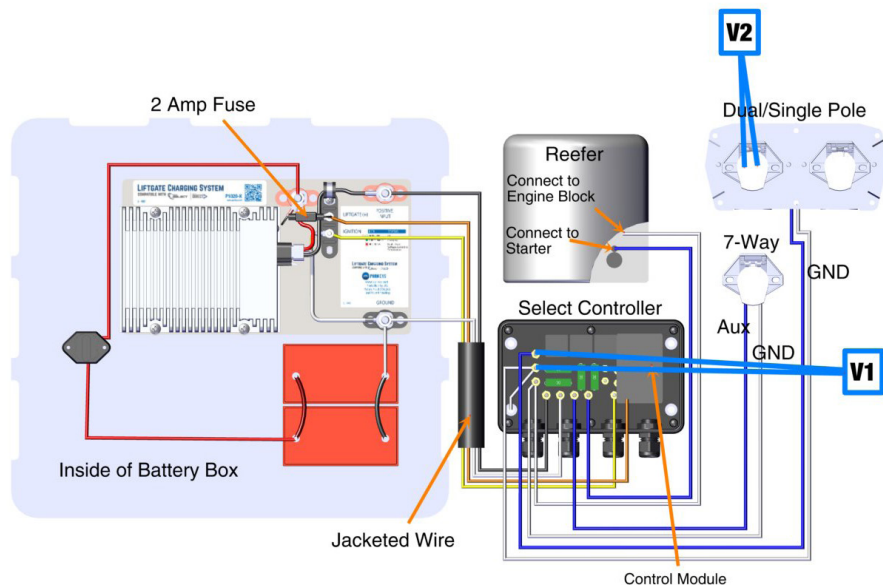

Figure 9
Step 1: With the stinger cord still plugged in, and the tractor running, use a voltmeter to measure the voltage between the dual pole positive stud and the dual pole negative stud inside the Select Controller (see V1 in Figure 9). It should read 13.2 volts or greater. If yes, and the light still is not solid green, call customer service, as the Select Controller or Control Module may be defective. If no, proceed to step 2.
Step 2: With the stinger cord still plugged in, and the tractor running, use a voltmeter to measure the voltage between the positive and negative poles in the stinger receptacle (see V2 in Figure 9). It should read 13.8 volts or greater. If yes, repair or replace the wiring between the stinger and the Select Controller. If no, measure the voltage at the truck battery. If the reading is greater than 13.8 volts, the issue is the wire from the stinger to the truck. If the reading is less than 13.8 volts, the issue is the charging system of the truck; allow the battery to charge or repair the charging system on the truck.